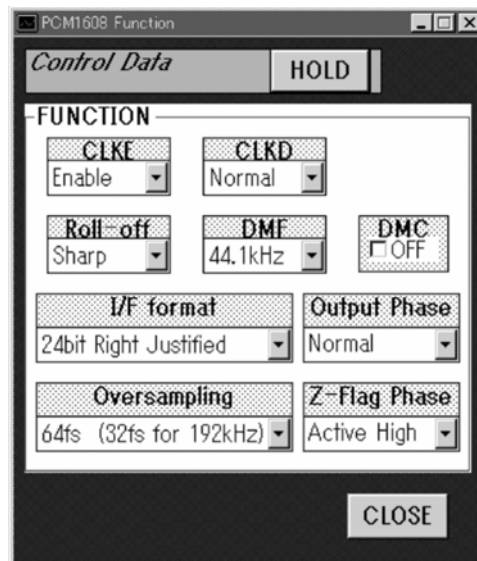

Figure 2-4. Function Control
- Function control (see Figure 2-4): controls various programmable functions, such as Interface formats, oversampling mode, DAC output phase, de-emphasis function/frequency, and so forth. Some functions are not available for the PCM1681; see Table 2-1 for details.